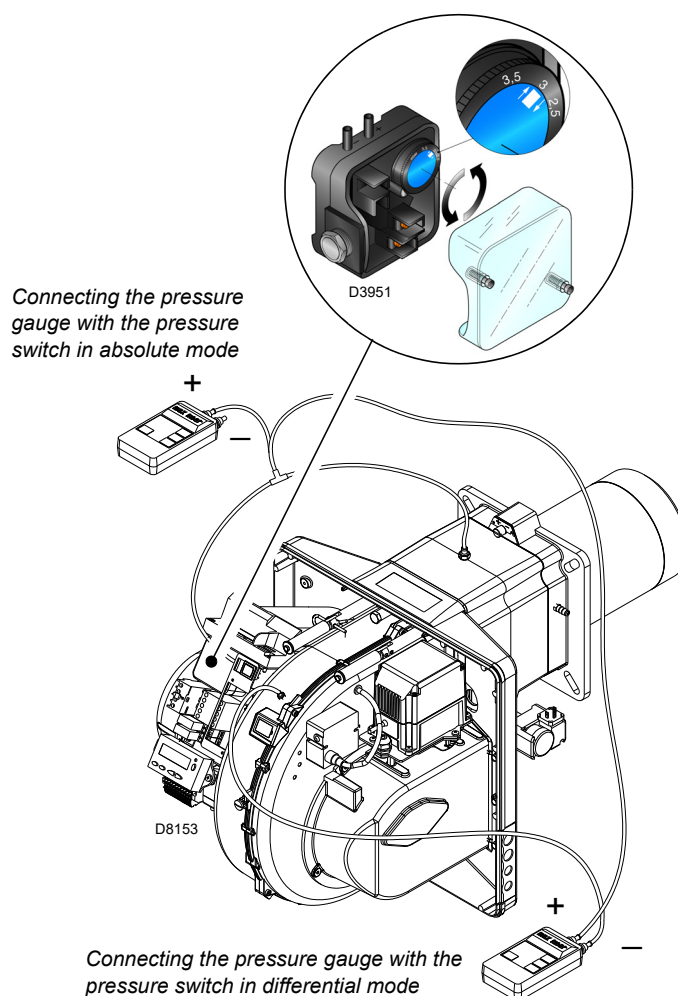

Fig. 32
- Adjust the air pressure switch (Fig. 32 at page 32) to the start of the scale.
Adjust the air pressure switch (Fig. 32) after having performed all other burner adjustments with the air pressure switch set to the start of the scale.
The connection of the pressure gauge is shown in Fig. 32.
In this case also, the pressure gauge must be connected in differential mode, as shown in Fig. 32.